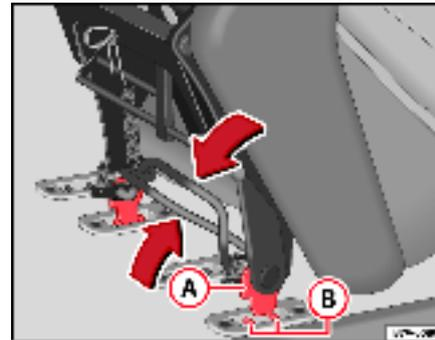

Fig. 93 Assembling seat: bar and retaining bolts
- Place the seat frame ⇒ page 130, fig. 93 **A** between the retaining bolts **B** in the floor anchorings and release both bars.